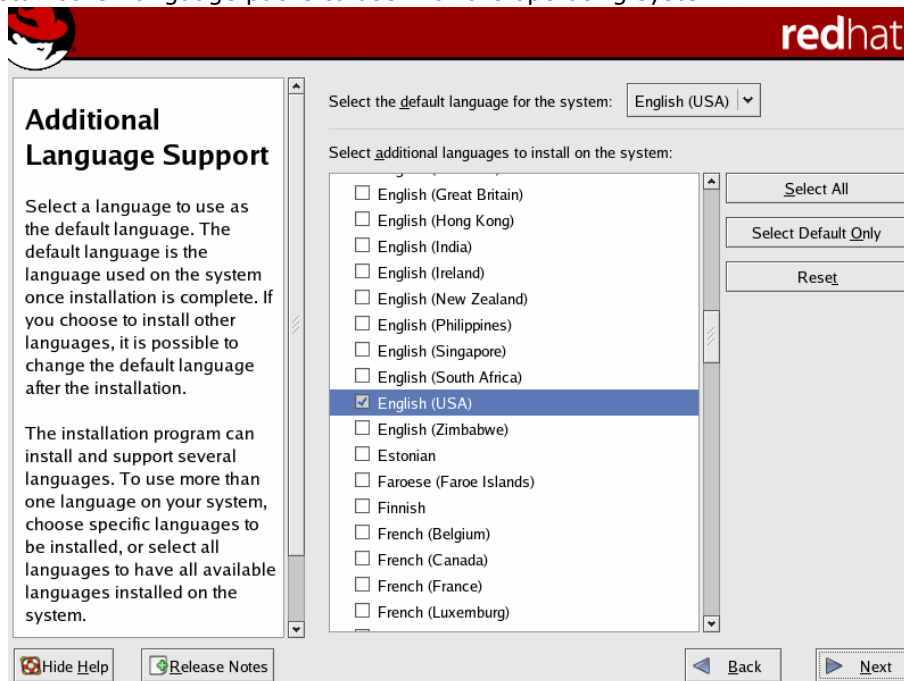

Figure 5-13
15. Refer to Figure 5-13. Select the language to be used as the default language. You can also decide to install other language packs to use with the operating system.